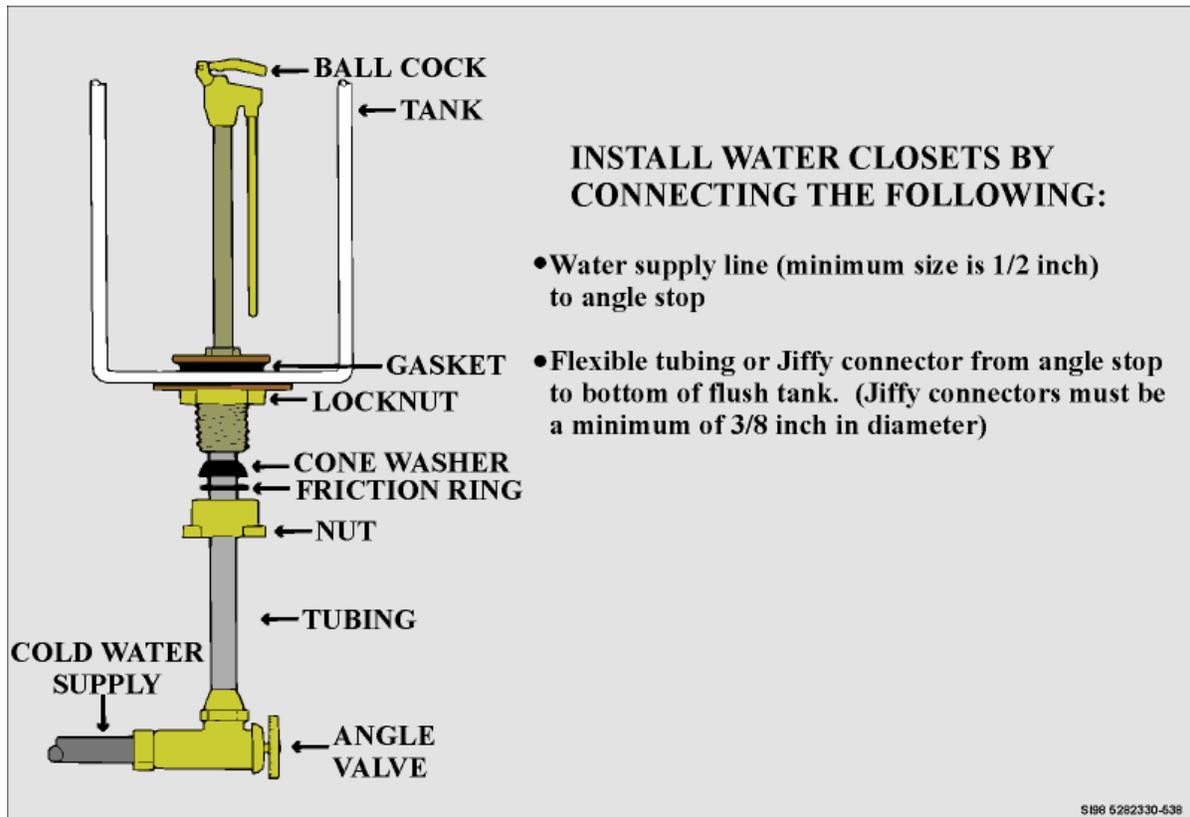

Figure 2. Ball Cock Assembly
2. Repair Of Water Closet Components. (See Figure 2.)